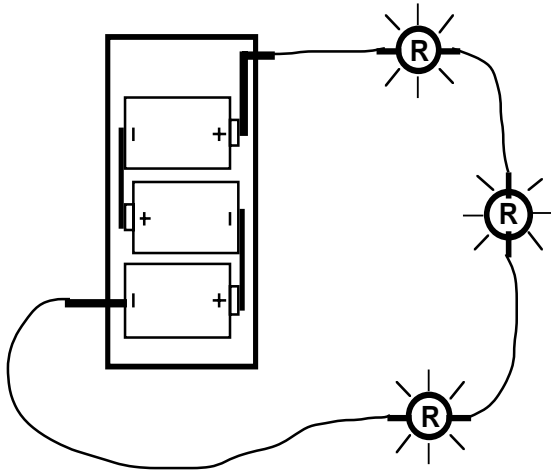

Figure 2.3a
1. In the space to the right of the visual representation in Figure 2.3a, draw a schematic diagram of the circuit.